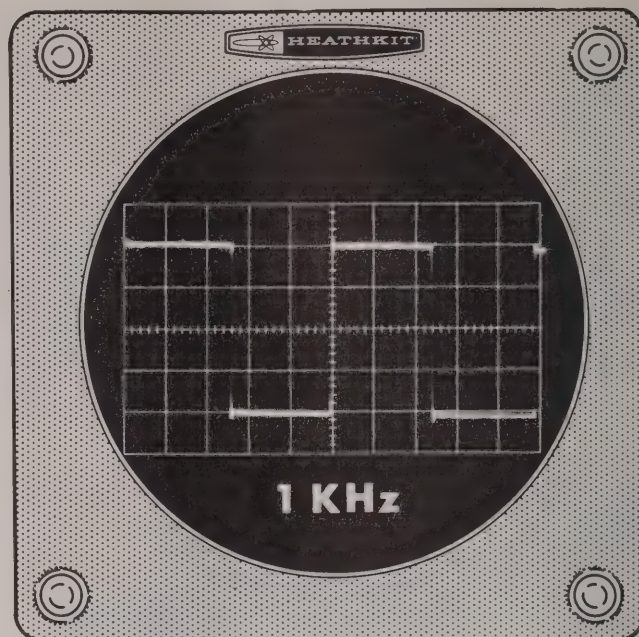

Figure 5
- ( ) Adjust trimmer capacitor C2 until the waveform on the oscilloscope looks like the one shown in Figure 5. The horizontal lines should be straight and flat.